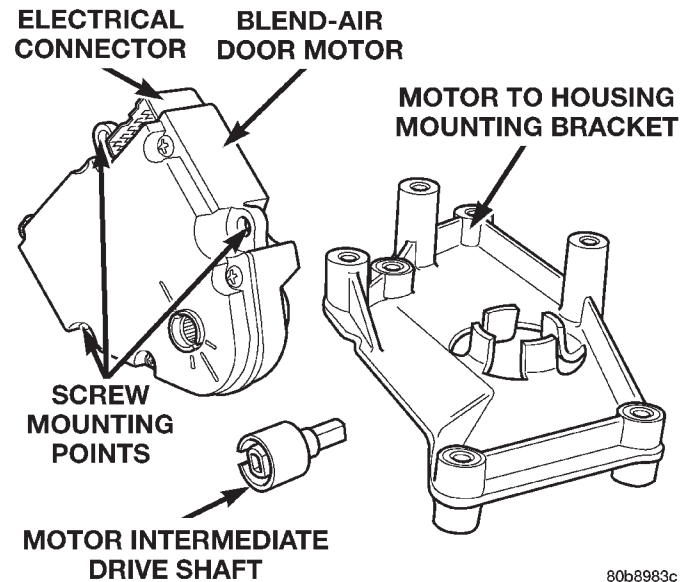

Fig. 41 Blend-Air Door Motor, Bracket, and Shaft
(1) Disconnect and isolate the battery negative cable.
(2) Disconnect the wire connector from the blend-air door motor.
(3) Remove the screws that secures the blend-air door motor to the blend-air door mounting bracket (Fig. 41).
(4) Remove the blend-air door motor.